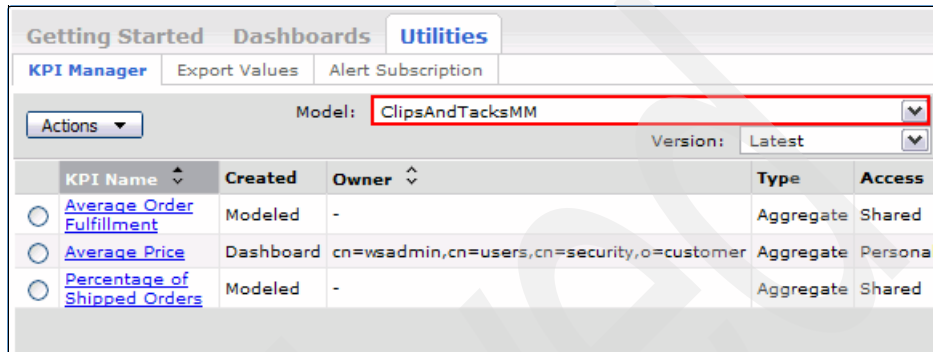

Figure 3-77 KPI Manager tab
2. Switch to the **Utilities** tab (Figure 3-77). On the **KPI Manager** tab, select a monitor model.